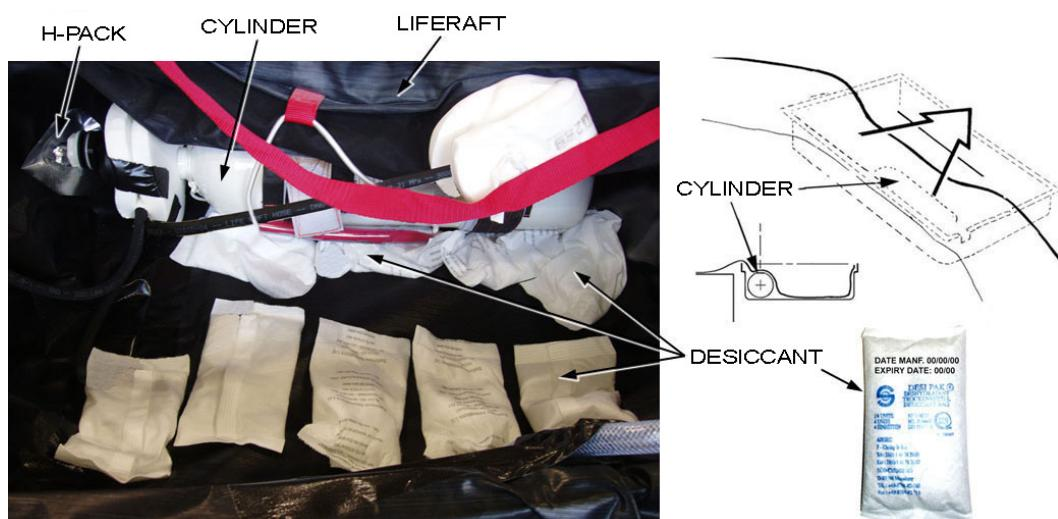

FIGURE A7-11
- 2.16 Grasp the liferaft and with the cylinder, drag the assembly over the container. Place the cylinder at the back of the container. The cylinder operating head must be close to the container corner. Refer to FIGURE A7-11.
- 2.17 Using a permanent marker, check and mark each desiccant sachet with the current date and expiry date. Refer to FIGURE A7-11. Initial expiry date is determined as 12 months from the date of manufacture. Subsequent expiry dates will be from date of each service.
- 2.18 Place 10 desiccant sachets into the H-Pack, spaced out along the cylinder and base of the H-Pack. Refer to FIGURE A7-11.